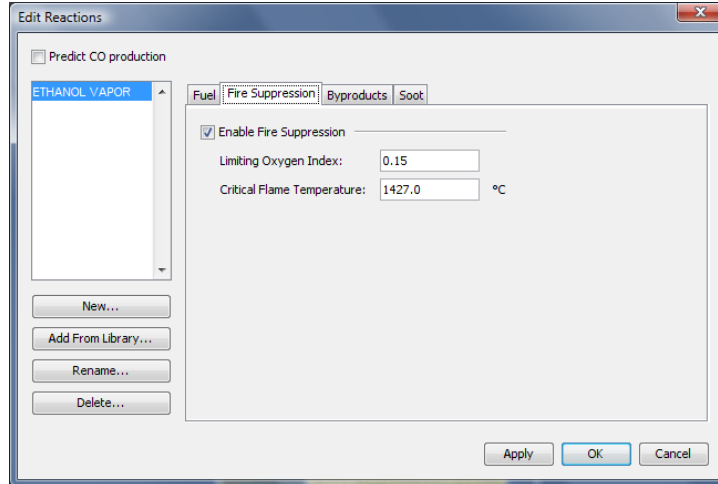

Figure 11.3. Fire Suppression panel of the Edit Reactions dialog. These are the FDS5 default values.
4. On the **Fire Suppression** tab, you can enable fire suppression and then enter values for the **Limiting Oxygen Index** ( $X_{O_2\_LL}$ ) and the **Critical Flame Temperature** ( $CRITICAL\_FLAME\_TEMPERATURE$ ). The default values are shown in Figure 11.3.